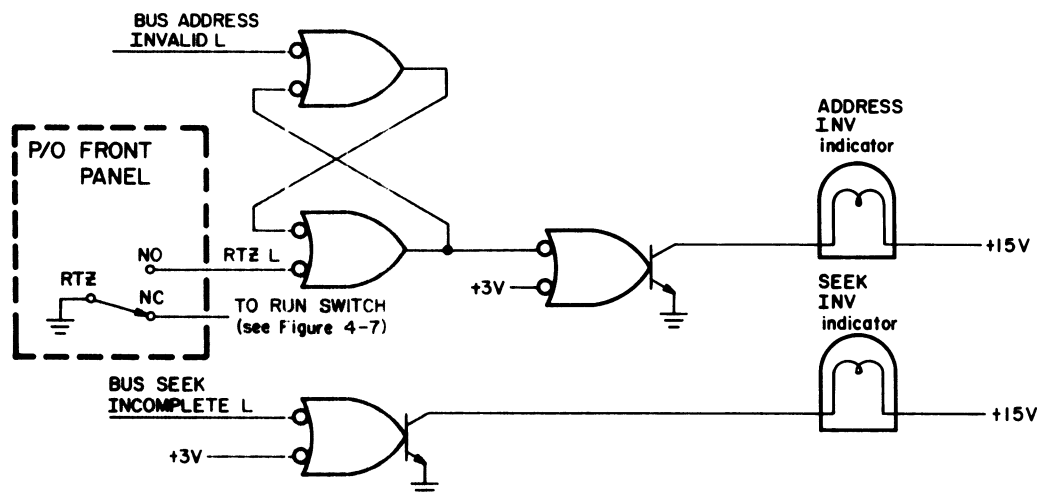

**Figure 4-10 Cylinder Address Source Select Logic**
**4.3.2.4 Cylinder Address Source Select Logic** – The cylinder address source logic (Figure 4-10) monitors the front panel Function switch and selects the cylinder address source in accordance with the mode of operation selected: